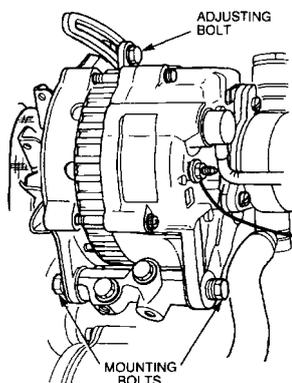

Figure 57 Installing the Alternator and Mounting Bracket
- uuu.** Position the alternator on the mounting bracket and install the two mounting bolts. Align the alternator adjusting bracket with the adjusting bolt hole on the alternator and install the adjusting bolt (Figure 57). Do not tighten the alternator adjusting and mounting bolts at this stage.